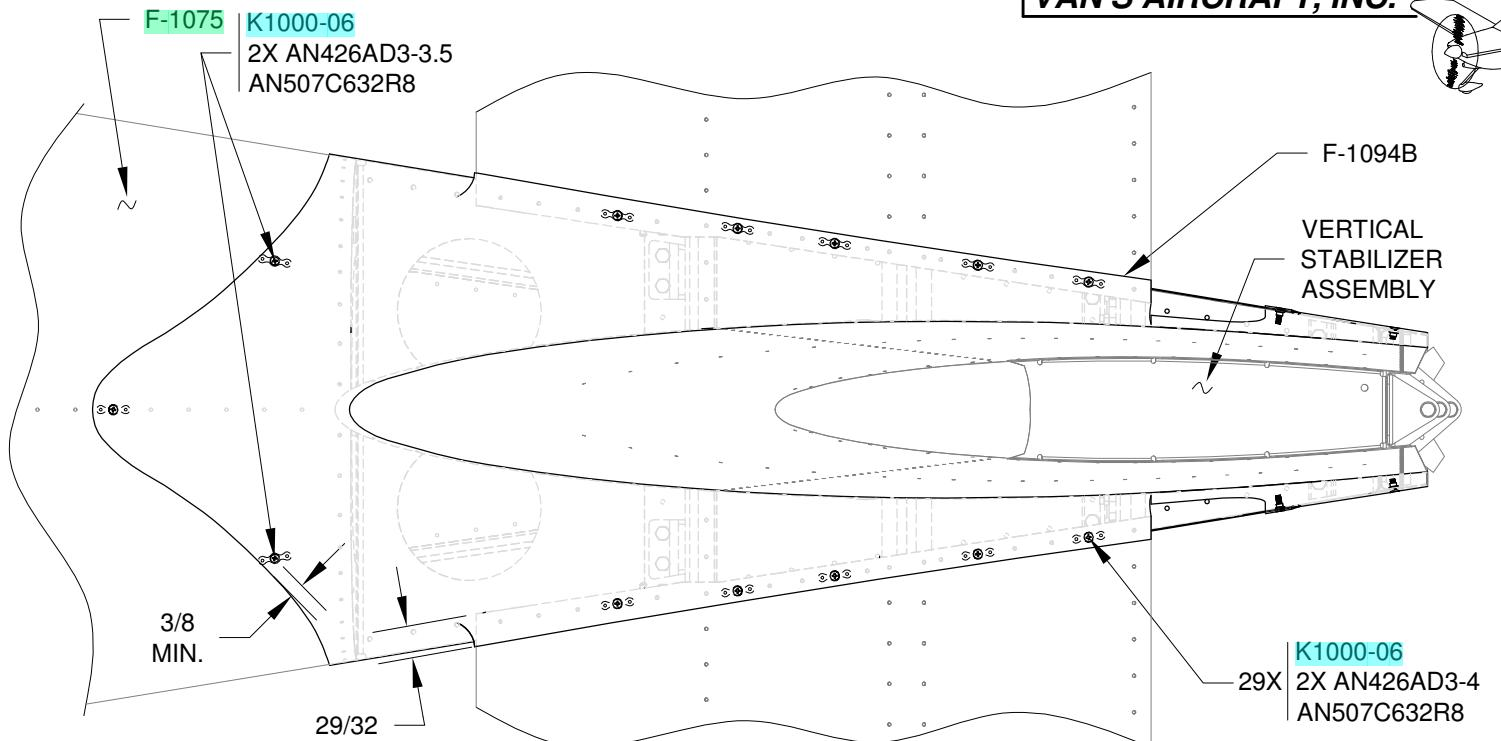
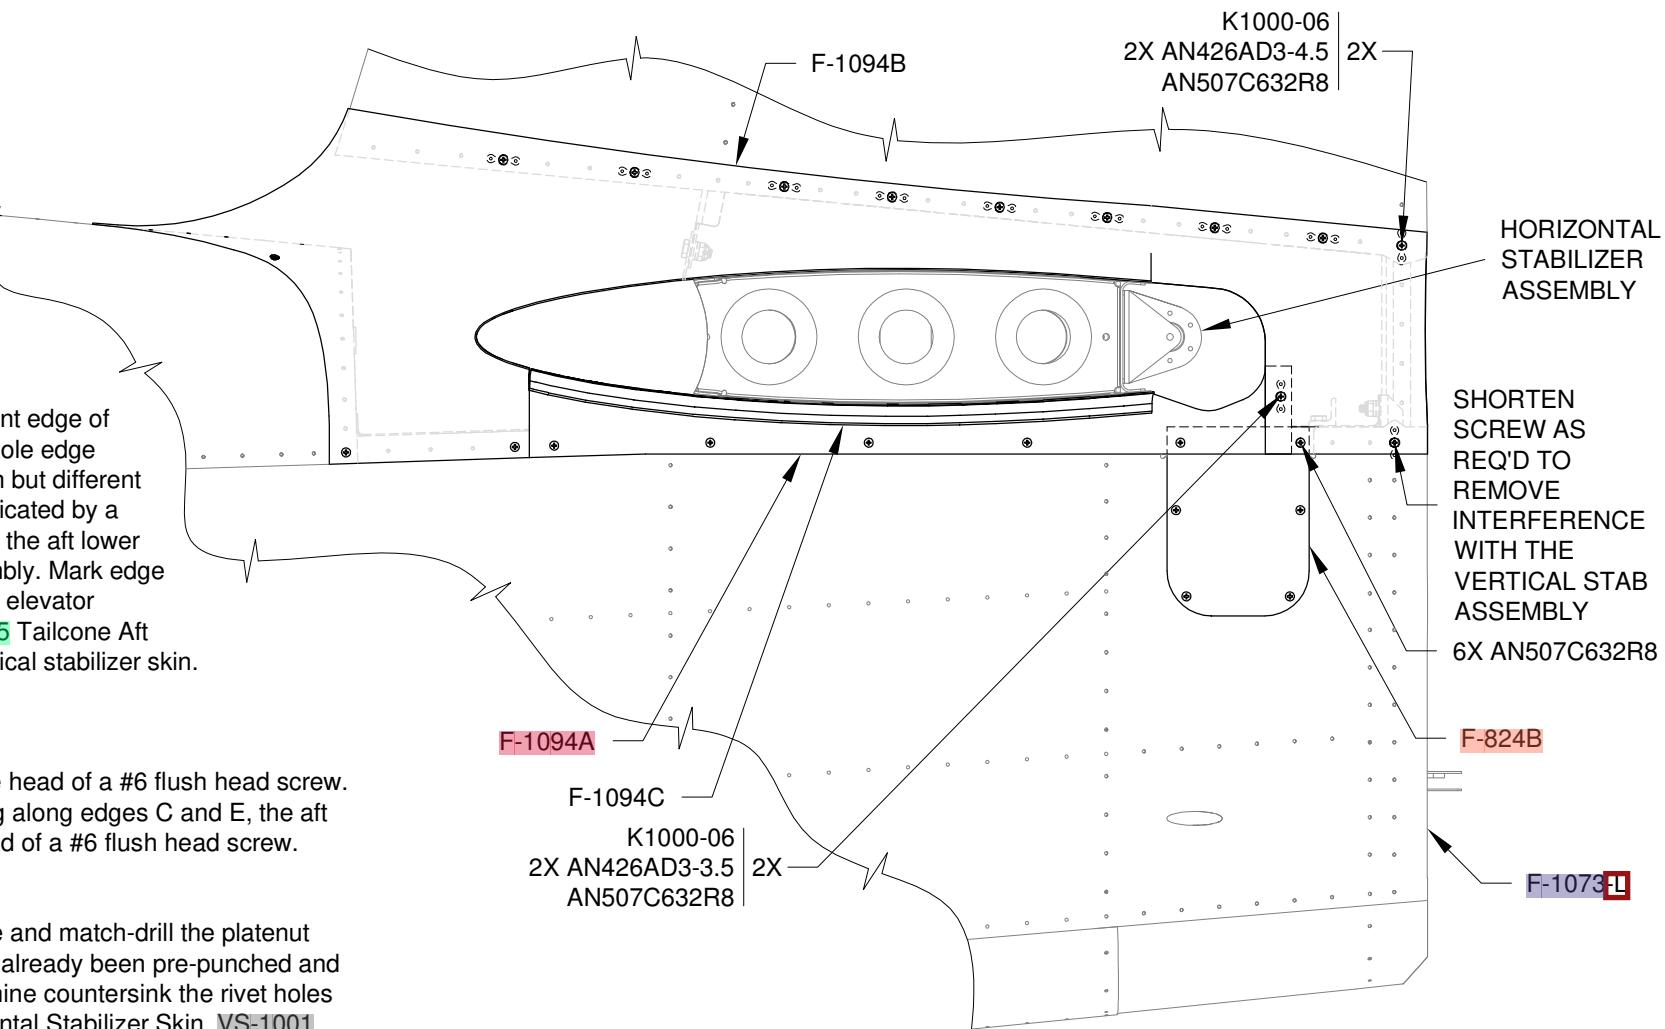

FIGURE 2: EMPENNAGE FAIRING INSTALLATION TOP VIEW
FIGURE 3: EMPENNAGE FAIRING INSTALLATION SIDE VIEW
Step 6: The locations just drilled #27 require nutplates. Use a K1000-06 nutplate (aligned with a #6 screw) as a drill guide and match-drill the platenut attach pattern into the F-1094A Empennage Gap Cover, horizontal and vertical assemblies (note the nutplate pattern has already been pre-punched and dimpled in the F-1075 Tailcone Aft Top Skin). Orient the platenut attach patterns as shown in Figure 2 and Figure 3. Machine countersink the rivet holes that attach the aft most nutplate to the vertical stabilizer assembly. Dimple the remaining locations on the HS-1001 Horizontal Stabilizer Skin, VS-1001 Vertical Stabilizer Skin and F-1073 Side Skin for the head of the nutplate attach rivets. Dimple then rivet the nutplates to the tailcone, horizontal and vertical assemblies as shown in Figure 2 and Figure 3.
Step 6: Machine countersink the F-1073L Tailcone Side Skin Left and F-1032L Tailcone Longeron Left to accept the dimples in the F-1094A Empennage Gap Cover and F-824B Cover Plate, except the aft most hole which does not need to be dimpled since the empennage fairing is machine countersunk for the screw head already in this location, see Page 12-5, Figure 3. See Figure 2, Section A-A.